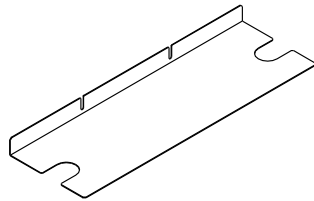

Figure 2-3. Ground Plate (PN 58G5334)
1. ____ Obtain from the shipping group two ground plates (PN 58G5334). See Figure 2-3.